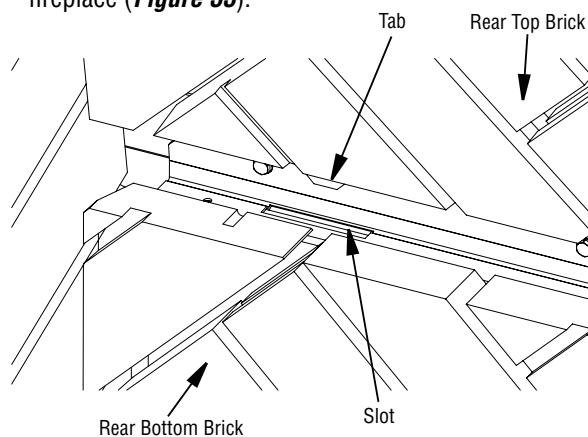
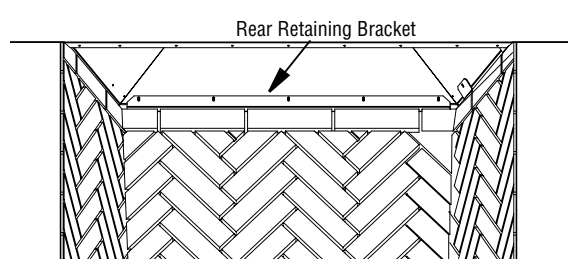

Figure 32 - Installing Rear Top Brick Panel
Figure 33 - Installing Rear Retaining Bracket
7. Install the rear top brick panel. Lift the panel up with the front of the brick panel facing toward the front of the fireplace. The bottom of the panel has two tabs that slide into the bracket on the top of the rear bottom brick panel (**Figure 32**). Secure the top of the rear top brick panel with the rear retaining bracket (shipped with fireplace). The bracket will slip underneath the metal lip on the top of the brick panel and screw into the inner dome of the fireplace (**Figure 33**).